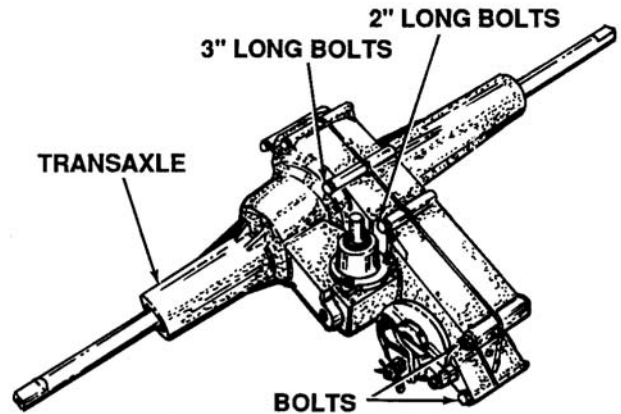

Figure 6-28. Pump Removal
2. Remove pump from transaxle by removing two bolts and nuts from front of transaxle using a 1/2 inch wrench. See Figure 6-28.